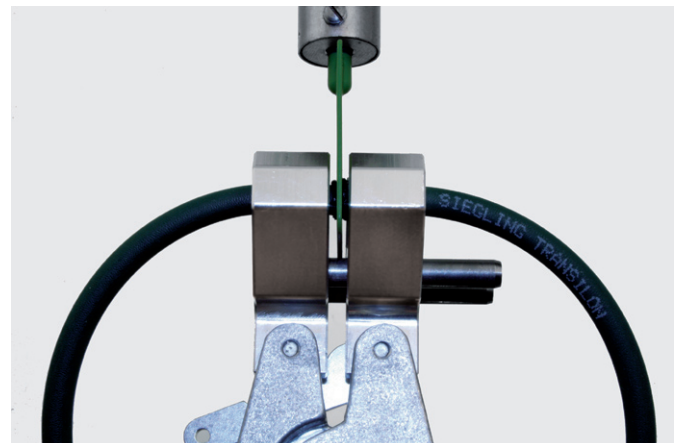

Fig. 6
- 6 TIP: The melting process can be observed better if the jointing clamp is turned! (Fig. 6)